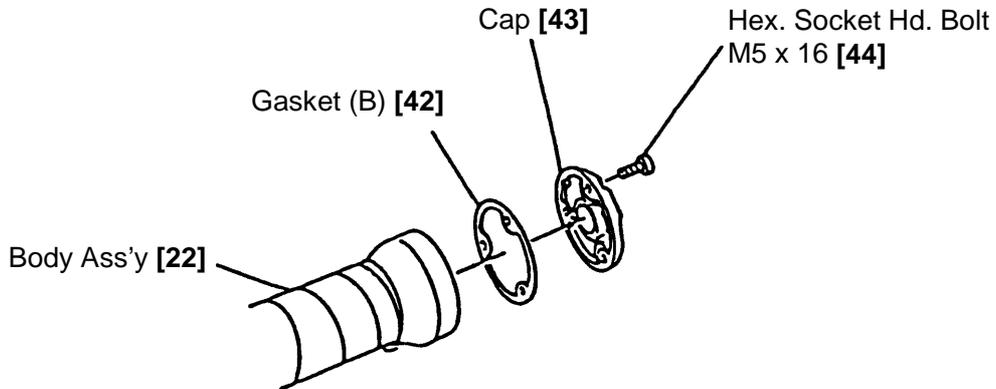

Fig. 17 Disassembly and Reassembly of the Cap
(1) Disassembly and reassembly of the cap (See Fig. 17)